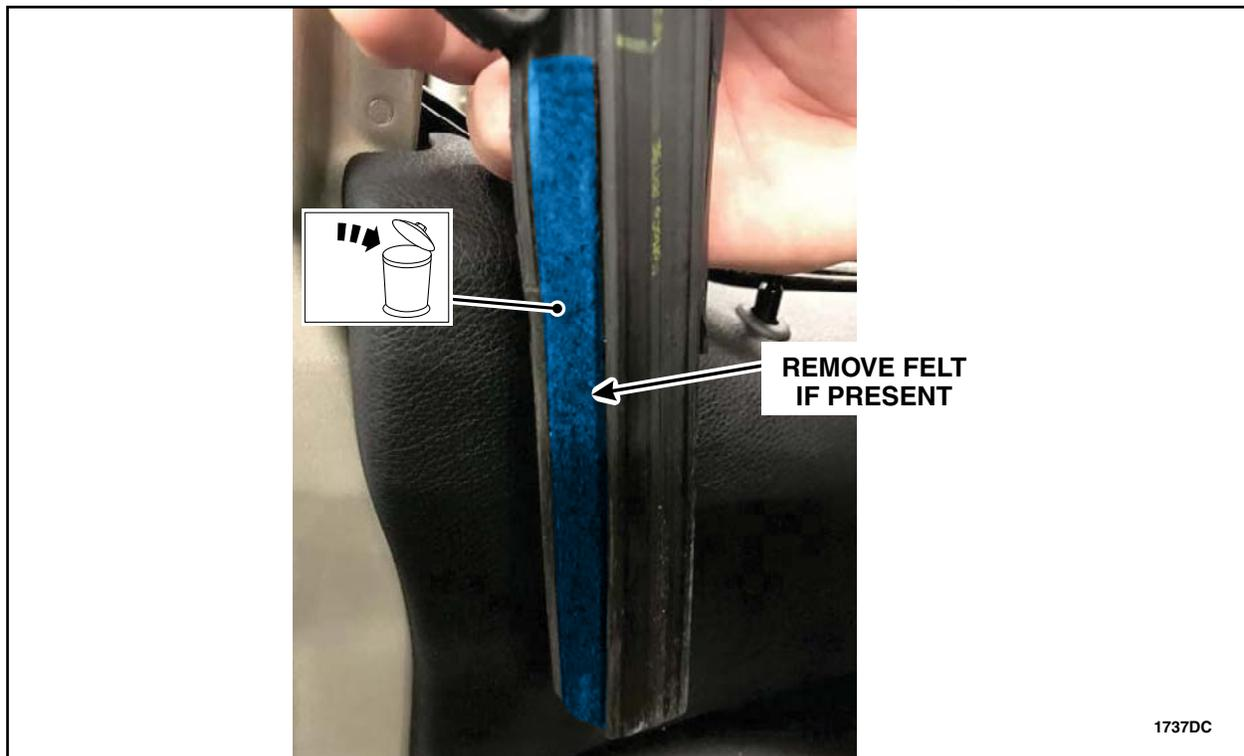

FIGURE 46
17. If present, remove and discard the felt on the rear door glass top run. See Figure 46.